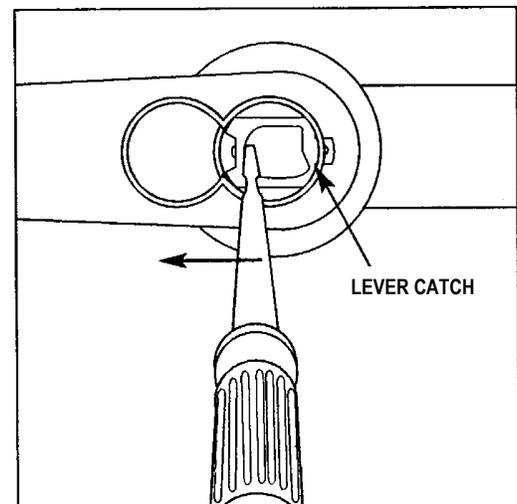

FIG. 23: REMOVING THE IC CORE LEVER
- Use a screwdriver to CAREFULLY push inside of lever catch to the side (see Fig. 23). Pull off the IC lever.